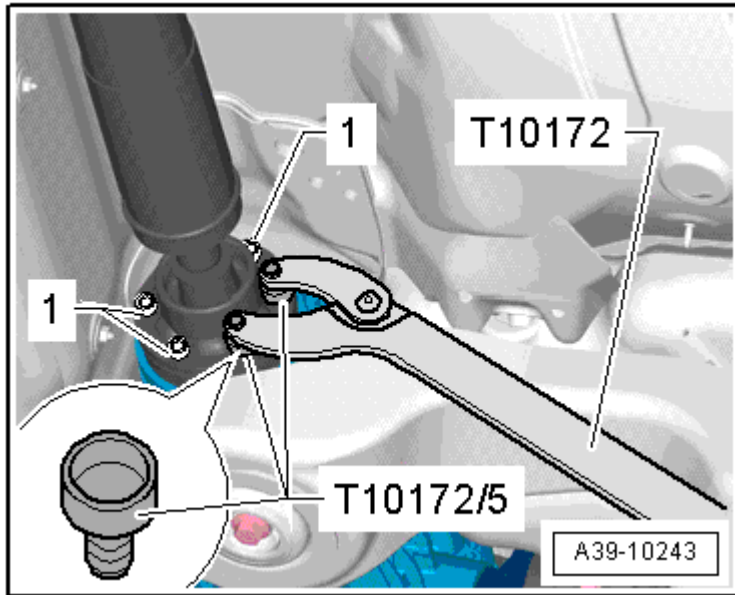

Fig. 6: Counter Hold Using Counterhold Tool Touareg V10 T10172 And Adapters T10172/5
Follow the tightening sequence for attaching the driveshaft bolts to the rear final drive. Refer to Fig. 6.
- Remove the driveshaft bolts on the rear final drive. Tighten the driveshaft following the tightening sequence. Refer to Fig. 6.
- Tightening specification and sequence, refer to **Fig. 6**